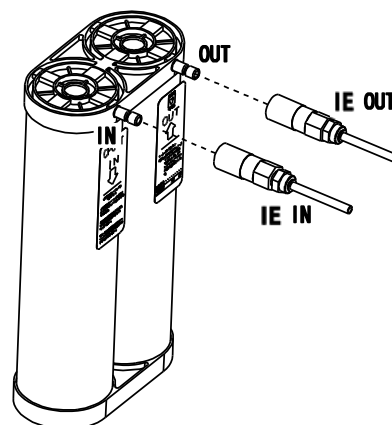

Figure 2
- (3) Push quick coupler from "IE OUT" tube onto the cartridge "OUT" coupler fitting, until it clicks. (See Figure 2)
- (4) Push quick coupler from "IE IN" tube onto the cartridge "IN" coupler fitting, until it clicks. (See Figure 2)